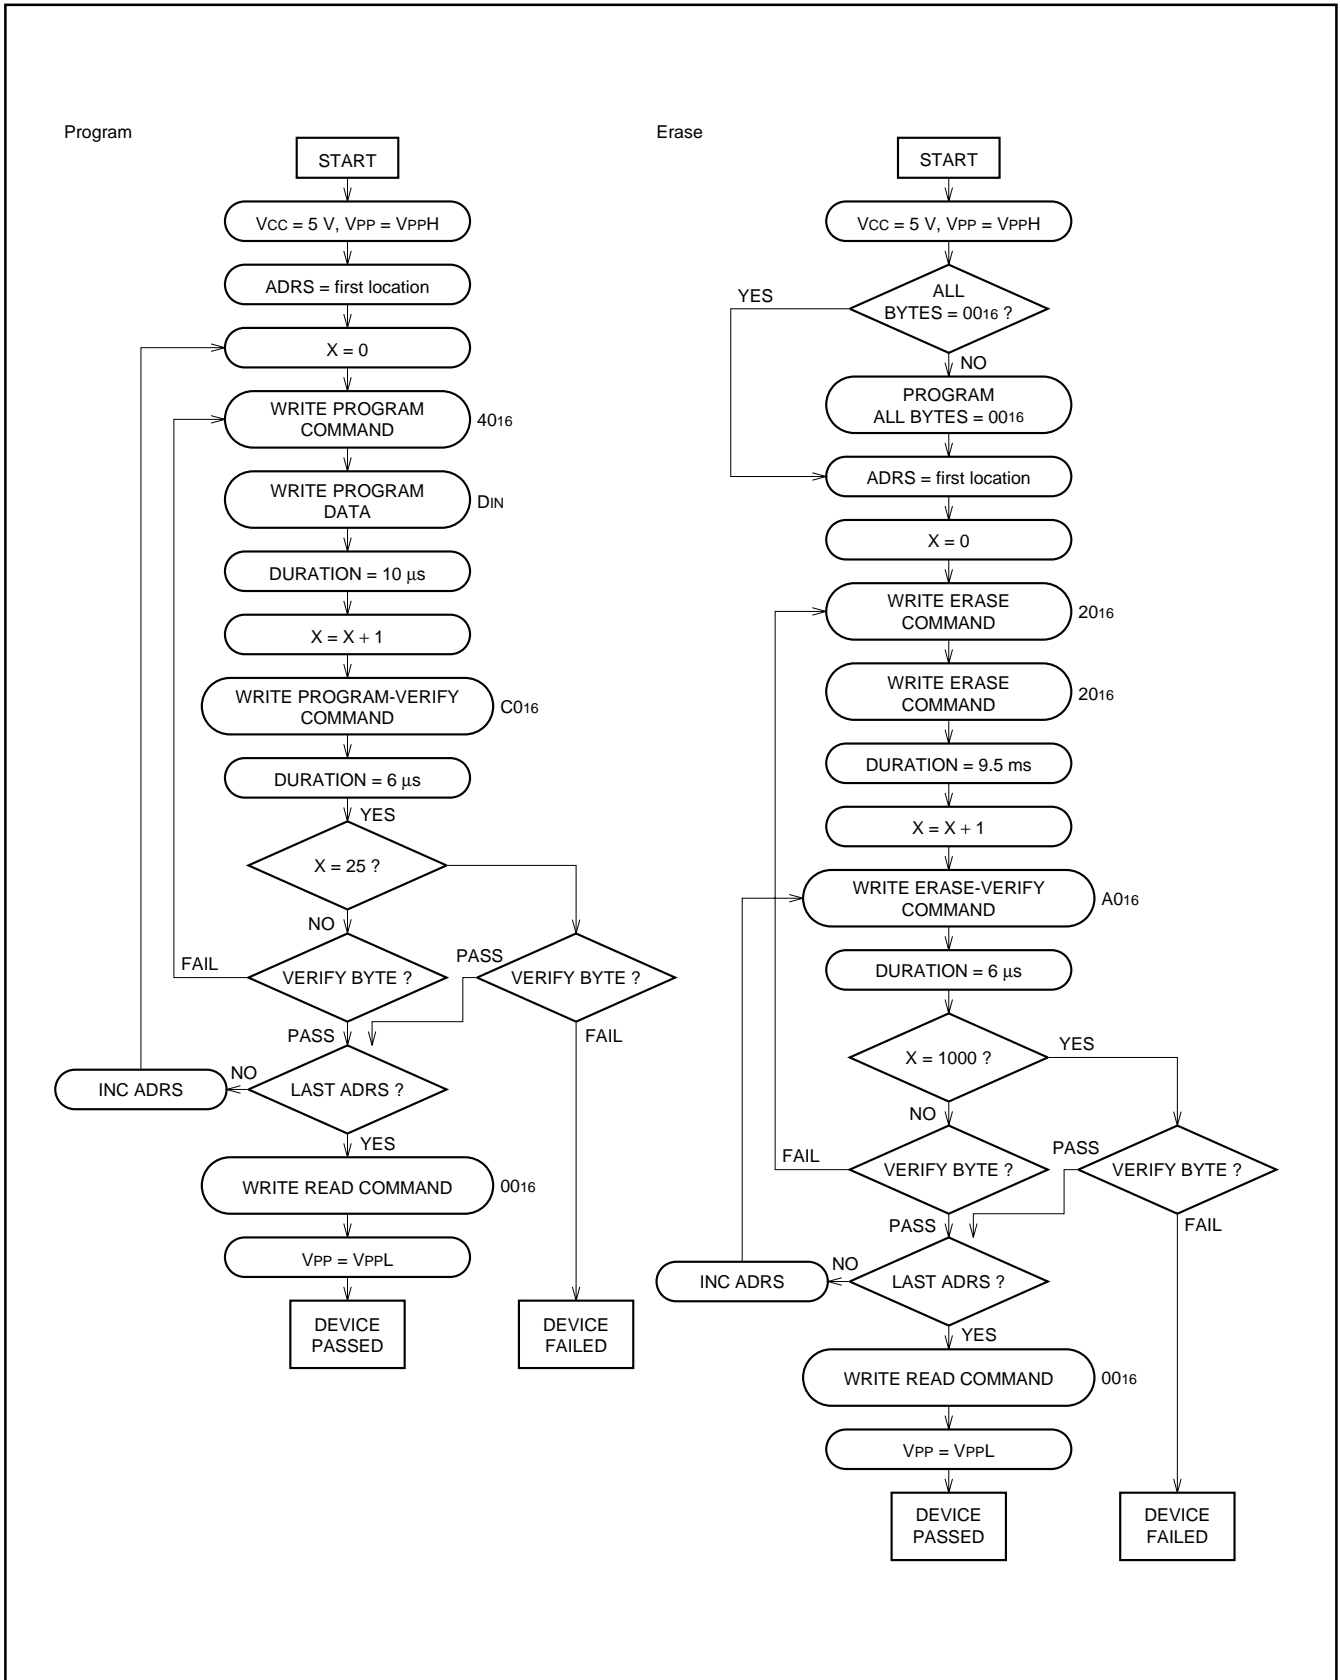

Fig. 90 Programming/Erasing algorithm flow chart
**Note:** A programming operation is not completed by executing the program command once. Always be sure to execute a program verify command after executing the program command. When the failure is found in this verification, the user must repeatedly execute the program command until the pass. Refer to Figure 90 for the programming flowchart.
**Note:** An erase operation is not completed by executing the erase command once. Always be sure to execute an erase verify command after executing the erase command. When the failure is found in this verification, the user must repeatedly execute the erase command until the pass. Refer to Figure 90 for the erase flowchart.
**Note :** A programming operation is not completed by executing the program command once. Always be sure to execute a program verify command after executing the program command. When the failure is found in the verification, the user must repeatedly execute the program command until the pass in the verification. Refer to Figure 90 for the programming flowchart.